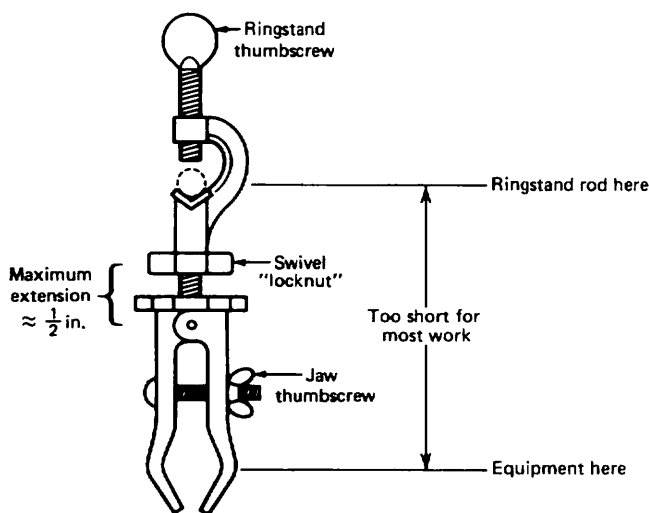

Fig. 87 The "barely adequate for organic lab" buret clamp.
1. **The simple buret clamp** (Fig. 87). Though popular in other chem labs, the simple buret clamp just doesn't cut it for organic lab. The clamp is too short, and adjusting angles with the "locknut" (by loosening the locknut, swiveling the clamp jaws to the correct angle, and tightening the locknut against the *back stop*, away from the jaws) is not a great deal of fun. If you're not careful, the jaws will slip right around and all the chemicals in your flask will fall out.